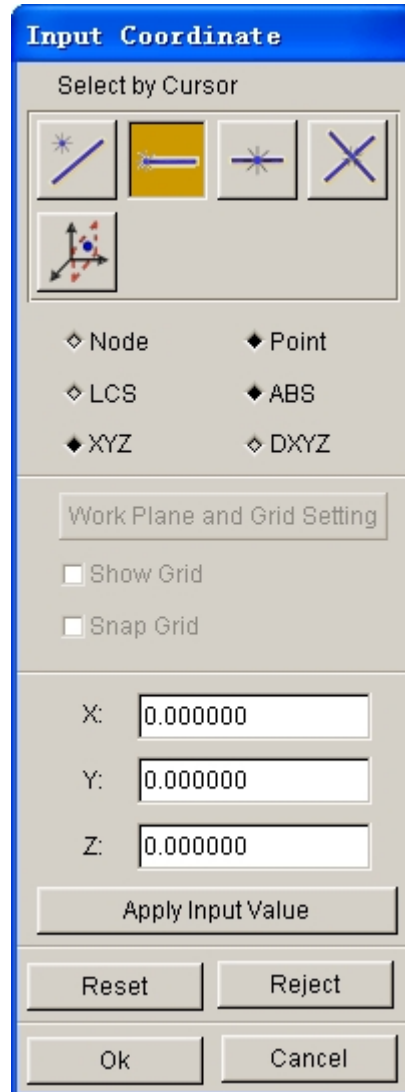

Figure 5.1.4 Input Coordinate dialog box
- Select NODE or POINT option from the INPUT COORDINATE dialog box as illustrated in Figure 5.1.4.
2. To create a point by its coordinates, as shown in Figure 5.1.4.